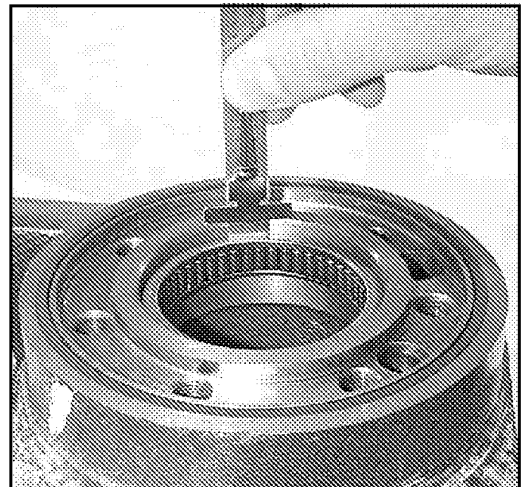

Figure 21
**CAUTION: If the bearing mandrel specified is not available and alternate methods are used to press in the outer and inner coupling shaft bearings (13 & 19) as specified. The specified depths must be achieved to insure adequate bearing support and correct relationship to adjacent components when assembled. Figure 21**